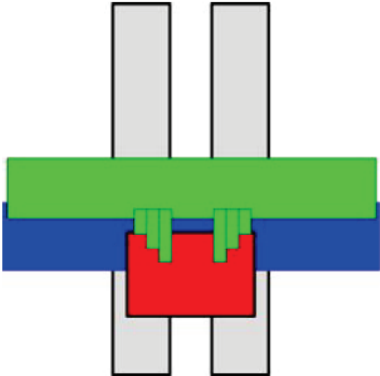

Figure 6 Left and right squeezing plates and rear squeezing plate finish squeezing.
6. The eject pusher ejects the tray (figure 6).